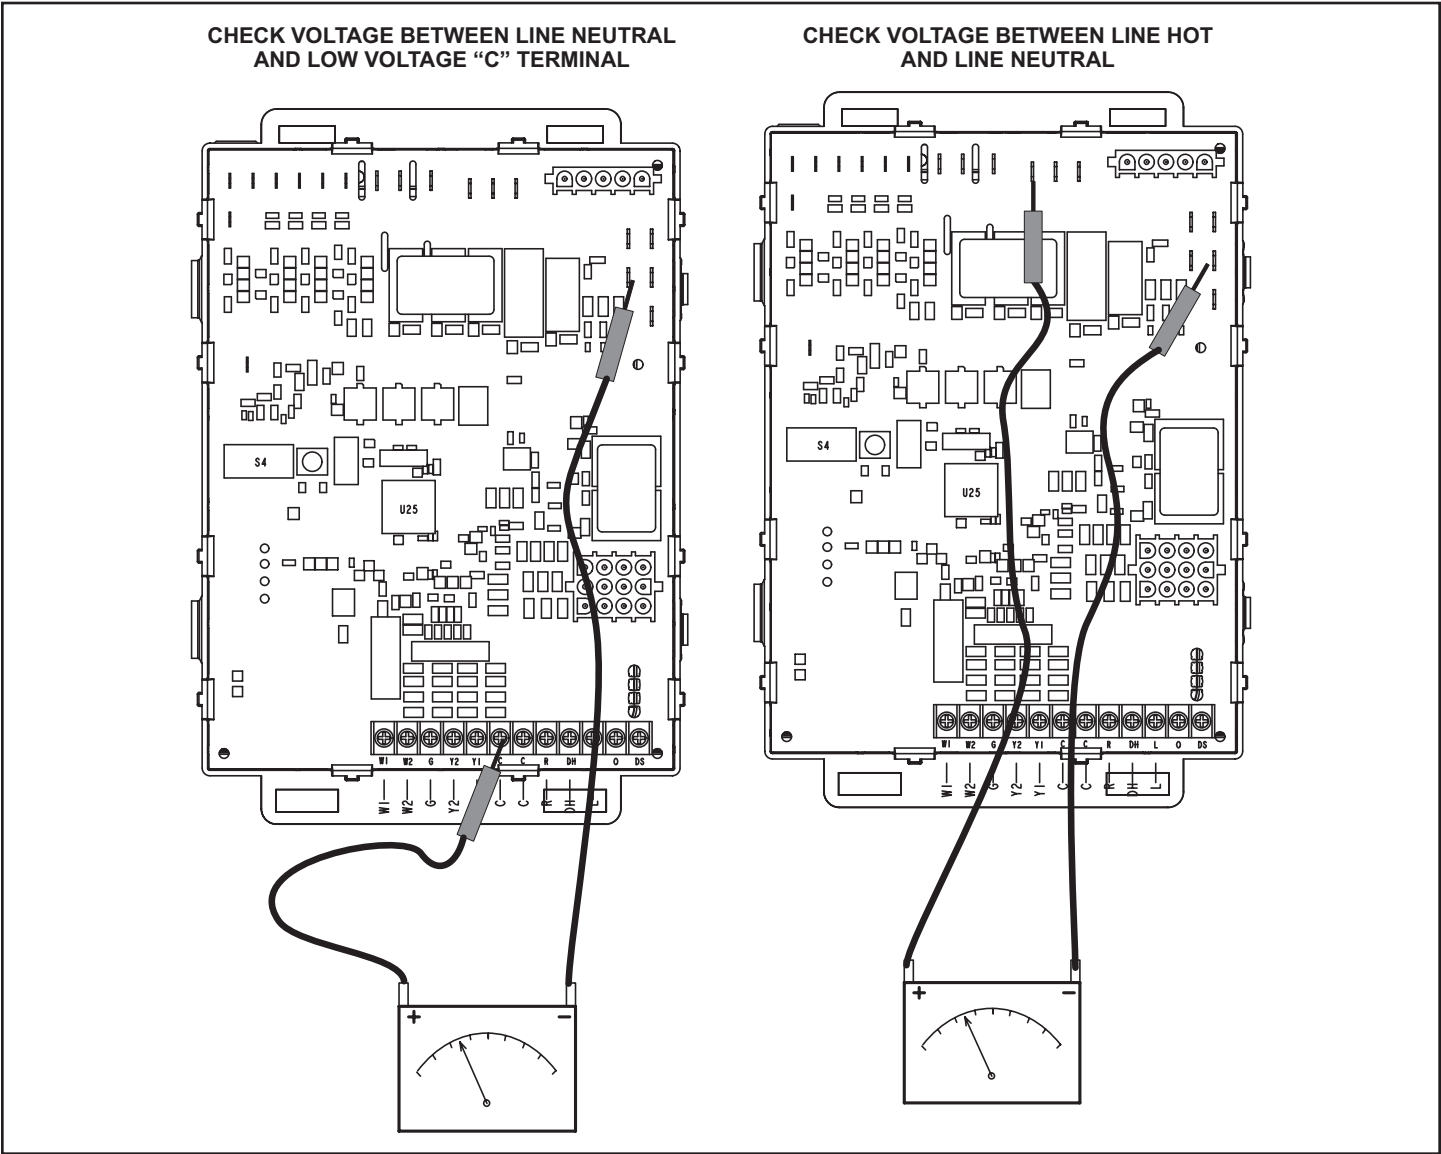

Figure 16.
- 1. Measure the AC voltage between Line Neutral (spade terminals) and “C” terminal (low voltage terminal block) on the integrated control. See Figure 16. A wide variation in the voltage between Line Neutral and “C” as a function of load indicates a poor or partial ground. Compare the readings to Table 14. If the readings exceed the maximum shown in Table 14, make repairs before operating the furnace.
- 2. In addition, measure the AC voltage from Line Hot to Line Neutral (spade terminals) on the integrated control. See Figure 16. This voltage should be in the range of 97 to 132 Vac.